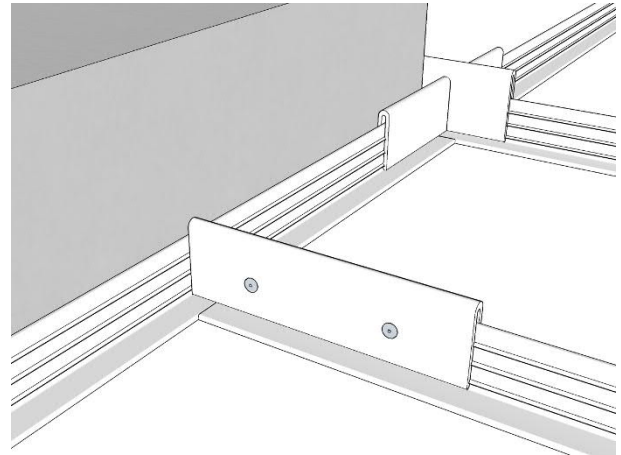

FIG. 17
1. When intersecting **Rails** are located at a ceiling item such as a HEPA filter or a lay-in box light fixture a standard **Splice Clamp** can be used for the **Junction**. They will need to be secured with **Lock Rivets** and **Backup Washers** to maintain integrity. These **Splice End Junctions** occur anywhere on a rail where there are ceiling items that interfere with the ability to use an **Interlock Clamp** or an **Offset Clamp**. These can also happen at either a **Locating Notch** or **No Locating Notch**. FIG. 17